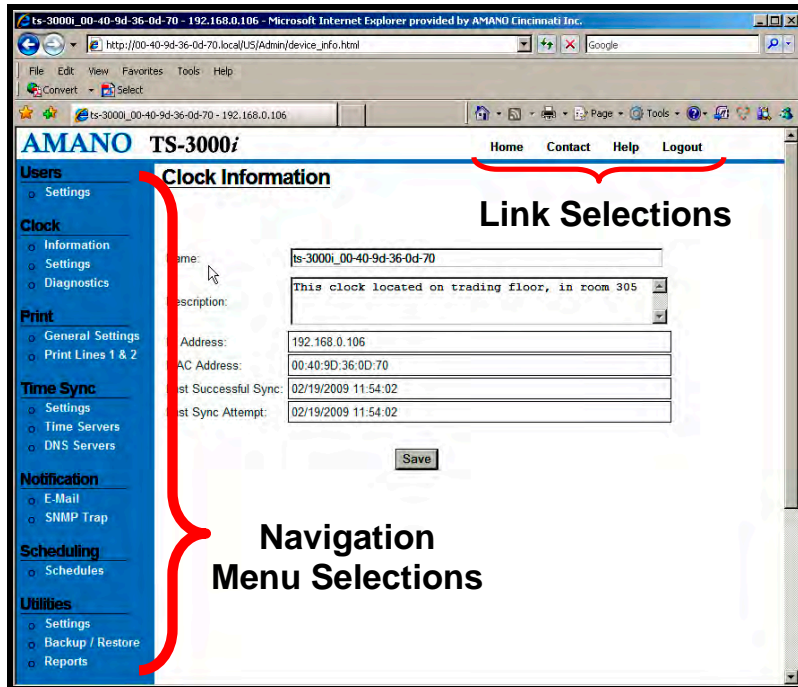

Figure 3-5: TS-3000i Web Clock Homepage
If this is not your first time logging into the clock, enter your case-sensitive Username (maximum = 20 characters) and your Password (maximum = 15 characters), then click on the **Login** button and the TS-3000i Web **Clock Information** page will appear (see *Figure 3-5*). ONLY 1 user can be logged into a clock.
- Step 2.** Click on the **Information** link under Clock, and the **Clock Information** will appear (see *Figure 3-5*). It is recommended to change the name to suit your nomenclature (default name = **ts-3000i_MAC**). See *Figure 3-4* for an example of a default clock name.